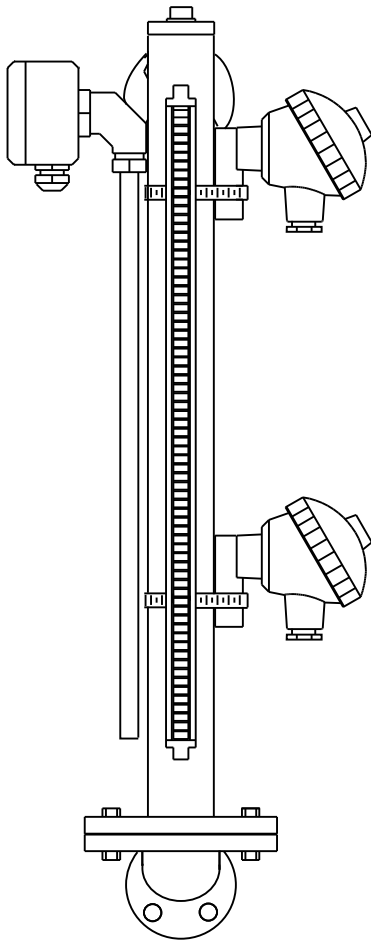
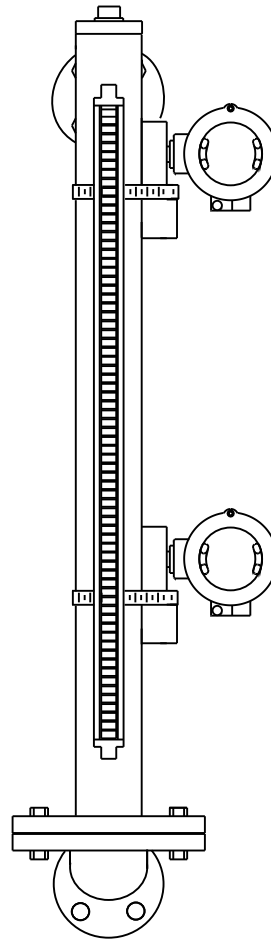
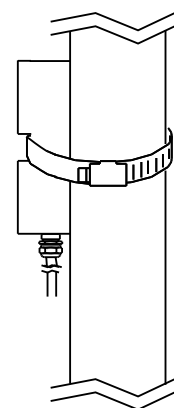

fig. 1
fig. 2
fig. 4
1. (Fig.1) By-pass Level indicator with the standard magnetic switches (Aluminum Alloy) and liquid level transmitter. With the housing protection IP65, it is suitable for outdoor or moist environment.
2. (Fig.2) By-pass Level Indicator with explosion-proof magnetic switches. With its housing protection Ex d IIC T6, it is applicable for hazardous environments .
2. The magnetic switch (EFB-12□□ & EFB-13□□) is to be fastened on the chamber with a hose clamp. (see fig.4 and page 18 - fig.1, fig.2) Positioning orientation of magnetic switches as fig.2.